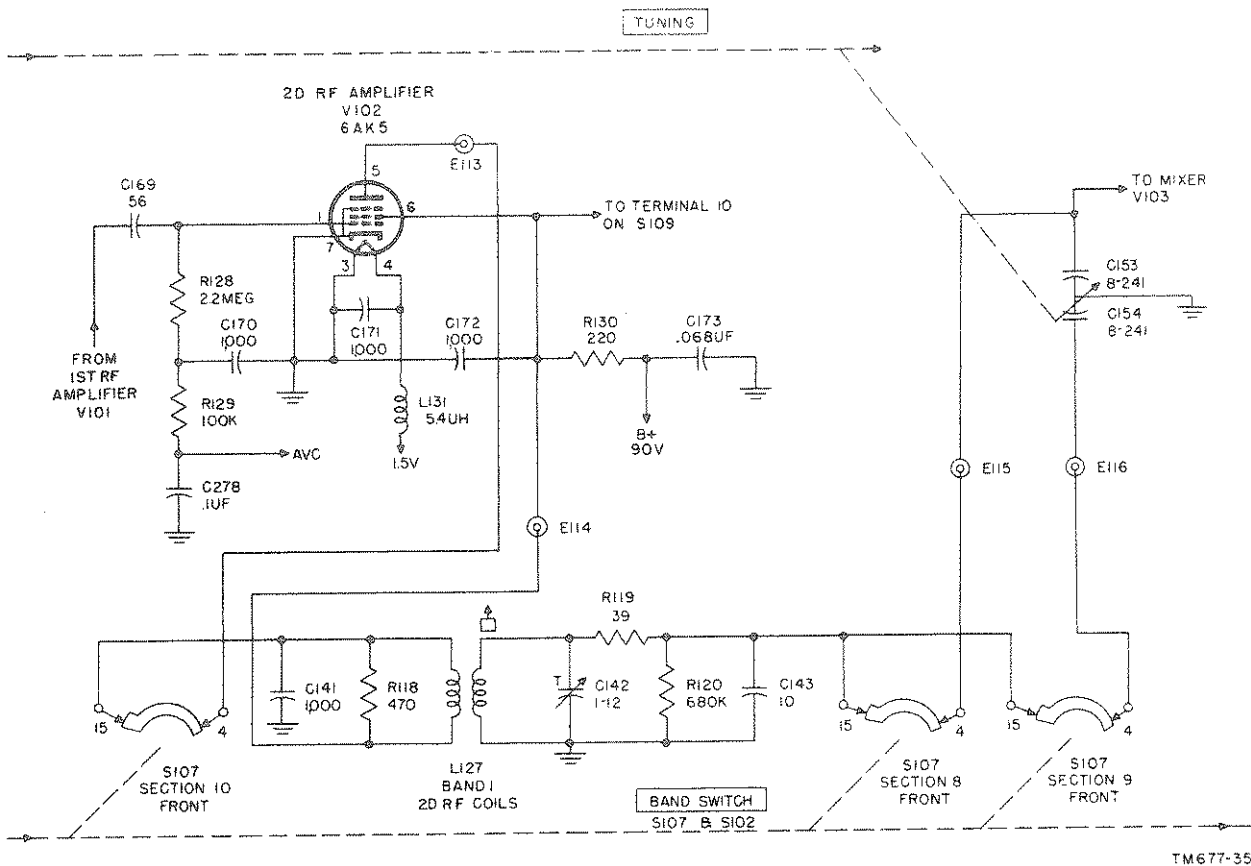

Figure 35. Radio Receiver R-395/PRD-1, functional diagram of second rf amplifier.
g. The output of V101 is coupled to the grid (pin 1) of V102 through C169 (fig. 35).
72. Second Rf Amplifier (fig. 35)